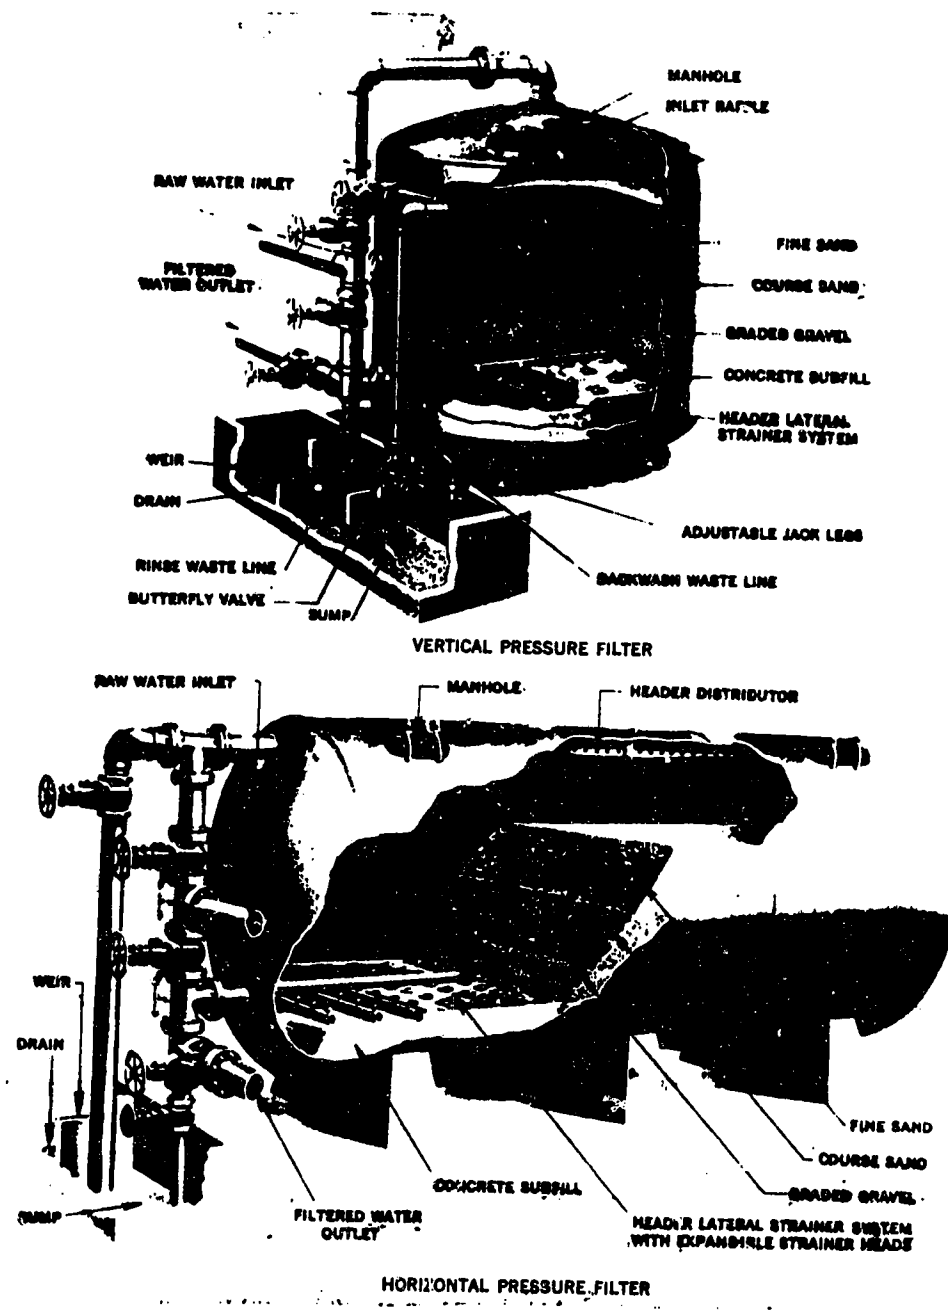
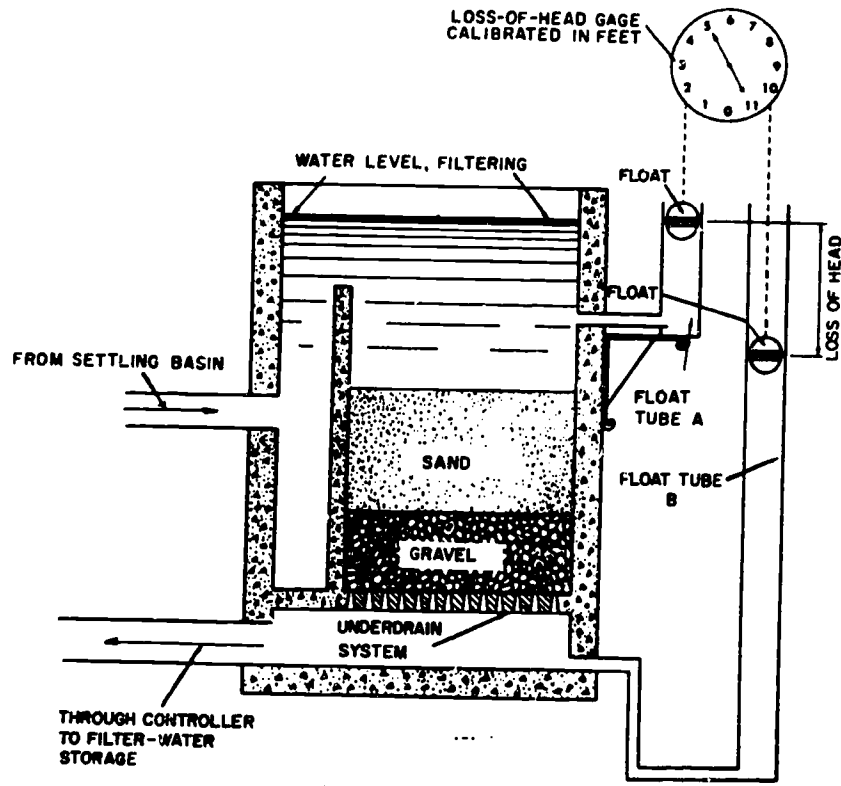

Figure 2-5. Pressure Filters
Figure 2-8. Loss-of-Head Gauge Operation
Pressure Filters. See figure 2-5. Pressure filters have the filter bed enclosed in a pressure vessel. Water is either pumped into the vessel and forced through the filter or is drawn through the filter by a suction pump. Pressure filter tanks can be installed either vertically or horizontally (see figure 14). This type of filter will operate on the same principle and at the same flow rate as gravity filters.
Loss-Of-Head Gauge. As the water passes through the filter, foreign matter is deposited in the filter. This foreign matter produces a greater resistance to the flow of the water through the filter bed and underdrain; consequently, there is a loss in head pressure between the inlet and outlet of the filter. This loss of head pressure is measured by the loss-of-head gauge (see figure 2-8). This gauge is operated by two floats, one at the surface of the water in the filter and the other at the static operating level of water in the underdrain. These two levels of pressures will be reflected by the calibrated face of the loss-of-head gauge and portrays a very accurate guide for efficient filter operation. This gauge should be checked periodically for operation and accuracy. Loss-of-head gauge erratic readings can identify such problems as (1) cracks in the filter bed surface, (2) improper operation of the rate-of-flow controller, (3) malfunctioning automatic outlet valves, and (4) the need for washing of the filter.
Pressure Filters. There are two types of pressure filtering agents, they are: sand and diatomaceous earth. Pressure filters (figure 2-5) will be used in filtering the main water supply as well as for swimming pools. The diatomaceous earth pressure filter (figure 2-8) will be used primarily because it will require less space than sand filters and it will make sparkling clear water. Diatomaceous earth is composed of skeletons of countless tiny one-celled animals called diatoms which, when specially prepared, looks like powdered chalk. The diatomaceous earth will build up on the filtering element and form a cake deposit. This causes a formation of fine pores between the particles, and filters the water as it passes through the cake deposit.